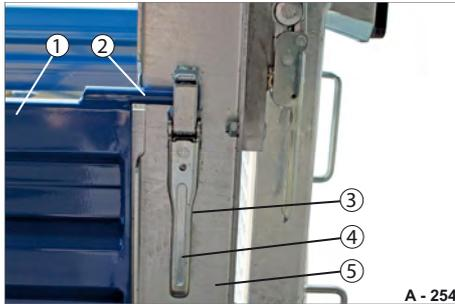

Fig. 117 Platform gate fastener CLOSED
- ▶ Press in the fastener catch (Fig. 117/3) and
- ▶ Pull on the fastener bar (Fig. 117/4). The gudgeon (Fig. 117/2 & Fig. 118/1) of the platform gate (Fig. 117/1) is released.